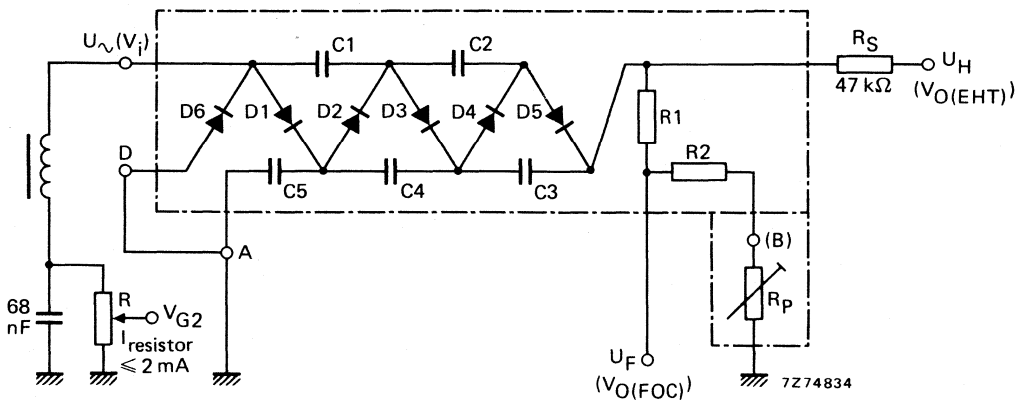

Fig.8 Circuit for BG1897-641; 642.
Resistor (R) current for V_{G2} voltage divider (see Fig.8)